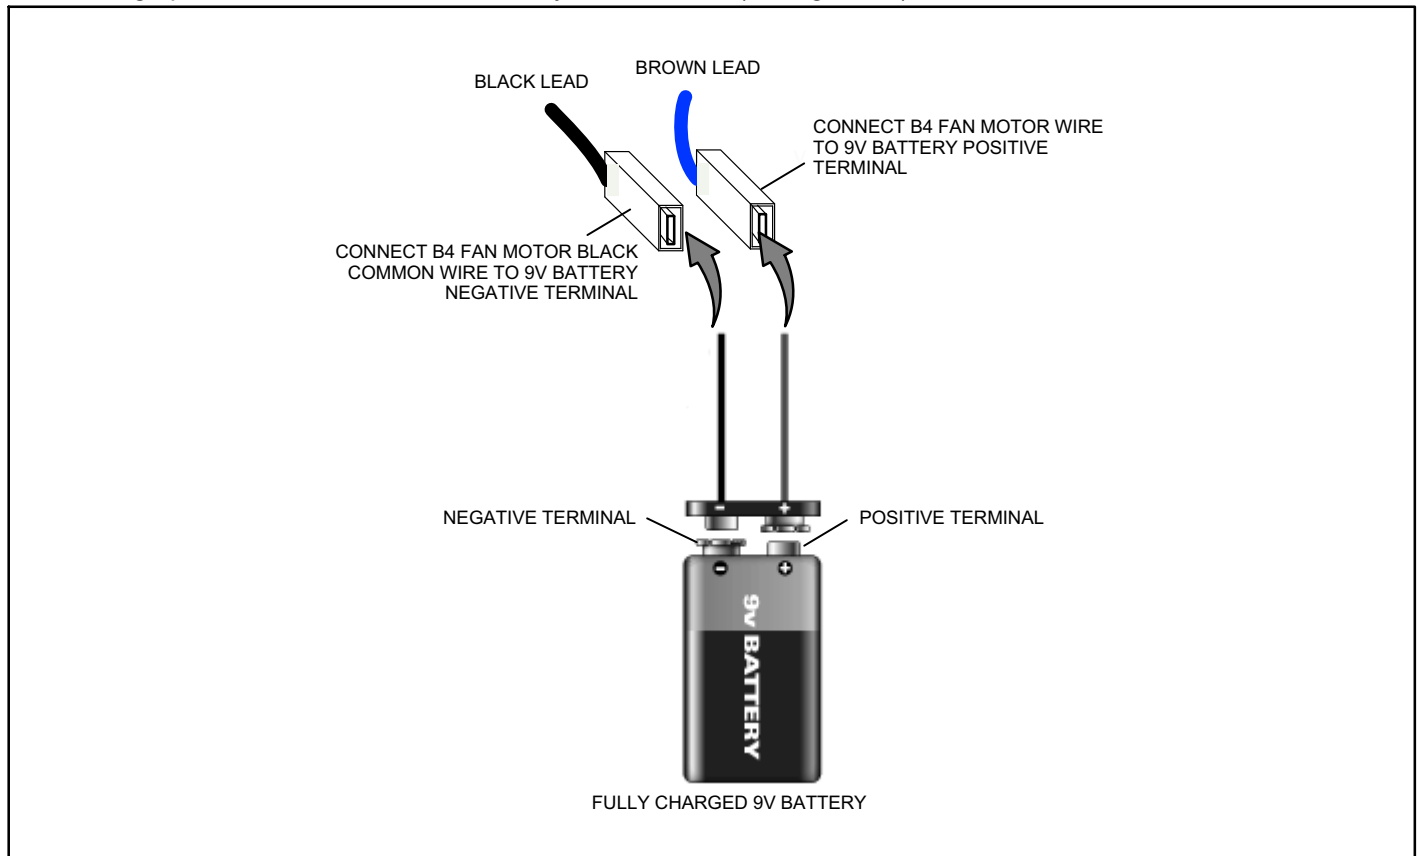

Figure 47. VDC Voltage Check
2. Voltage present – Perform a 9-volt battery test on motor (see figure 47).